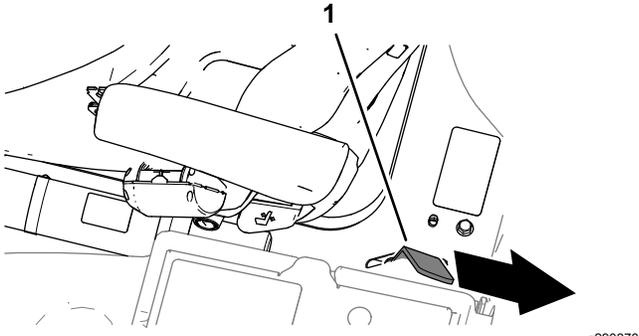

Figure 46
- Fully lower the platform and move the platform-latch handle towards the rear of the machine until the latch hooks fully engage the locking bar (Figure 46).